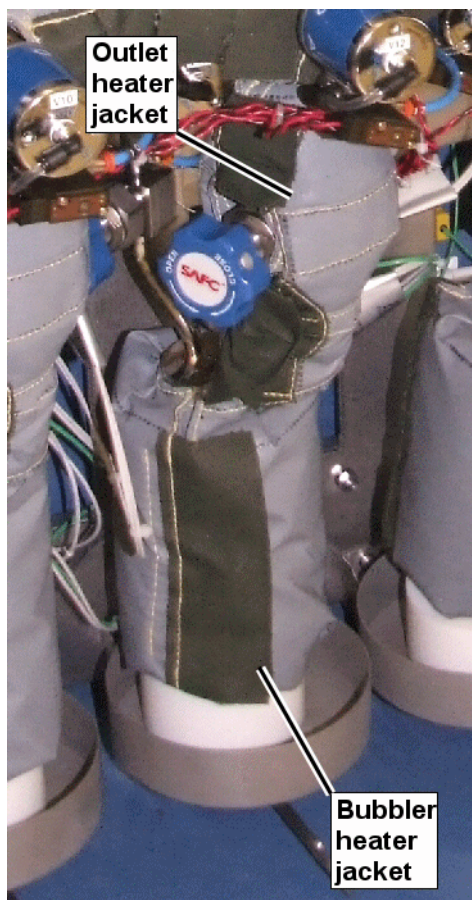

Figure 7-5 Ampoule heater jacket
- 4 Fit the heater jacket on the ampoule, ensuring that the thermocouple and heater electrical connections are correctly made (see Figure 7-5).